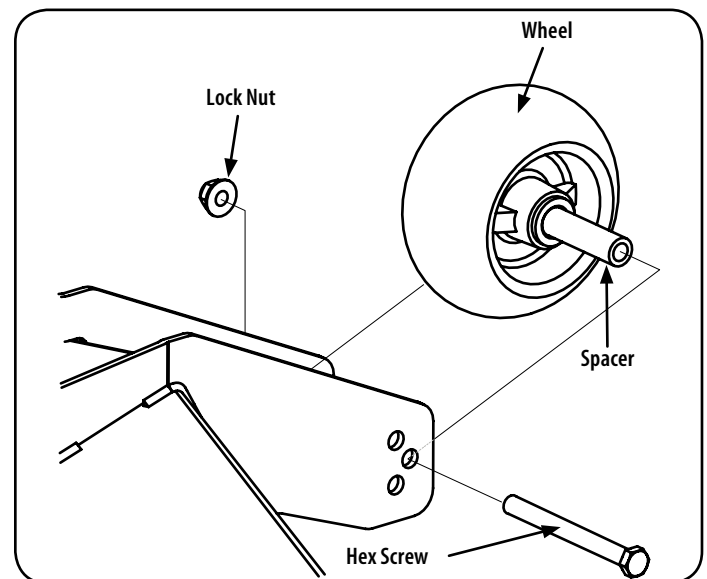

Figure 7
2. Remove the lock nut securing one of the front gauge wheel hex screws to the deck. Remove the gauge wheel, hex screw and spacer. Refer to Figure 7.